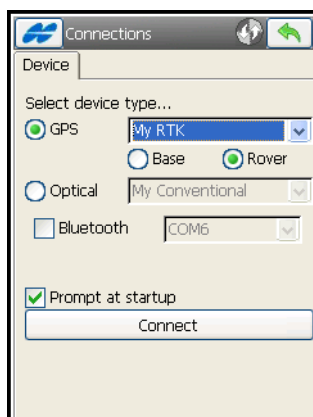

Figure 3-1. GPS Mode
3. If the receiver or the controller are not Bluetooth enabled, or the Bluetooth option is unchecked, connect the receiver to the controller with the cable and set the device type to GPS in TopSURV (you can change this setting later in the *Connections* screen) (Figure 3-1).